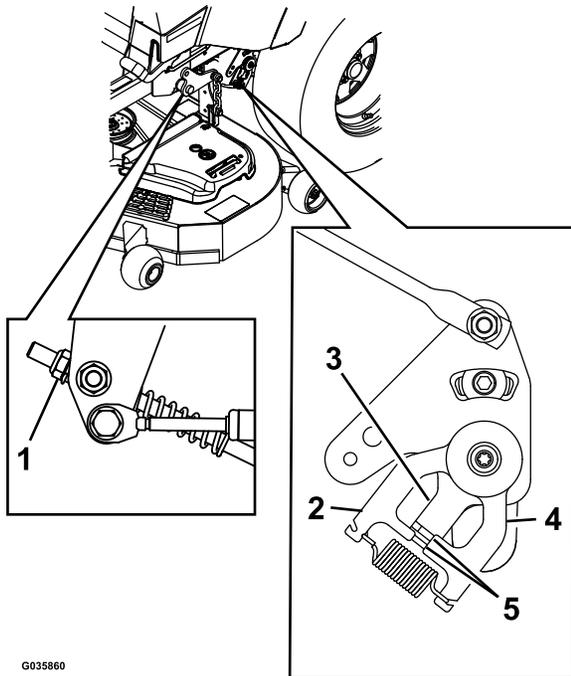

Figure 73
7. Bring the motion control levers into the neutral position. The control plate tabs should touch the return to neutral plates on the hydros. Adjust pump control rod lengths by turning the nut in the appropriate direction until the wheels slightly creep in reverse (see Figure 73). Move the motion control levers to the reverse position and while applying slight pressure to the lever allow the reverse indicator springs to bring the levers back to neutral. The wheels must stop turning or slightly creep in reverse.